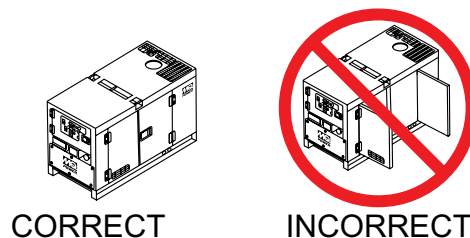

Figure 37. Engine Enclosure Doors
5. Close all engine enclosure doors (Figure 37).